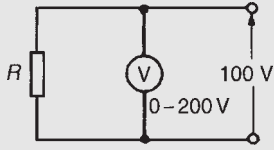

Figure 10.9
**Problem 3.** Calculate the power dissipated by the voltmeter and by resistor  $R$  in Fig. 10.9 when (a)  $R = 250 \Omega$  (b)  $R = 2 \text{ M}\Omega$ . Assume that the